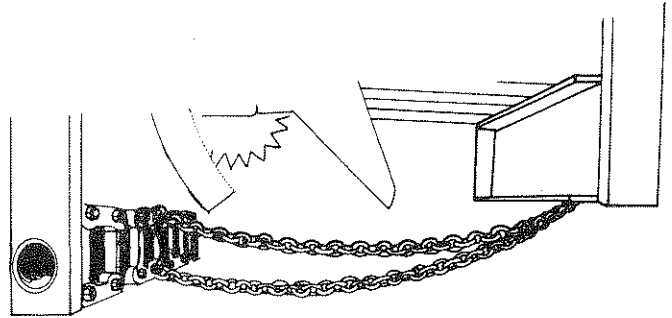

Fig. 56
8. Use a 3/8 chain and connect it to the needle yoke at mid-span, see Fig. 56, to prevent the knotter from moving in reverse.